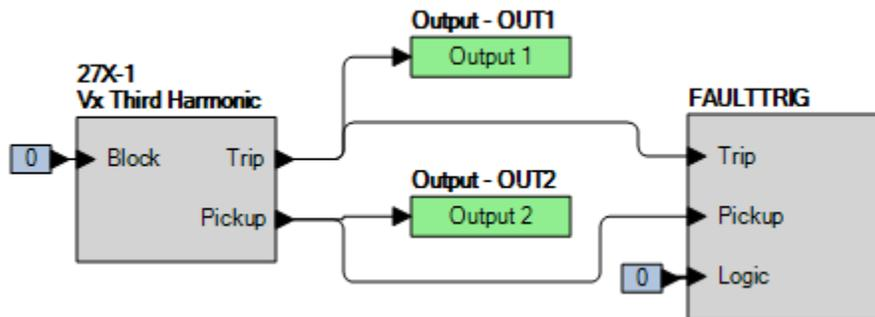

Figure 42-3. BESTlogicPi+ Settings (Vx Third Harmonic Mode)
Step 2: Use BESTCOMSPi+ to configure the BESTlogicPi+ programmable logic shown in Figure 42-3.
- Step 4: Prepare to monitor the 27X-1 function operation. Operation can be verified by monitoring OUT2 (see Figure 42-3).